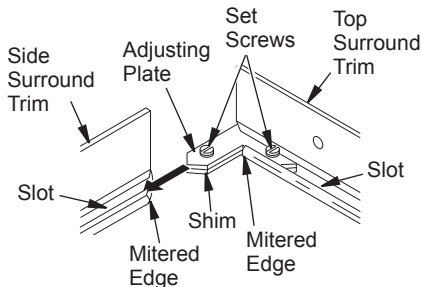

Figure 21 - Assembling Surround Trim
3. Align shim under adjusting plate as shown in Figure 21.
4. Slide one end of adjusting plate/shim in slot of top surround trim (see Figure 21).
5. Slide other end of adjusting plate/shim in slot on mitered edge of side surround trim (see Figure 21).